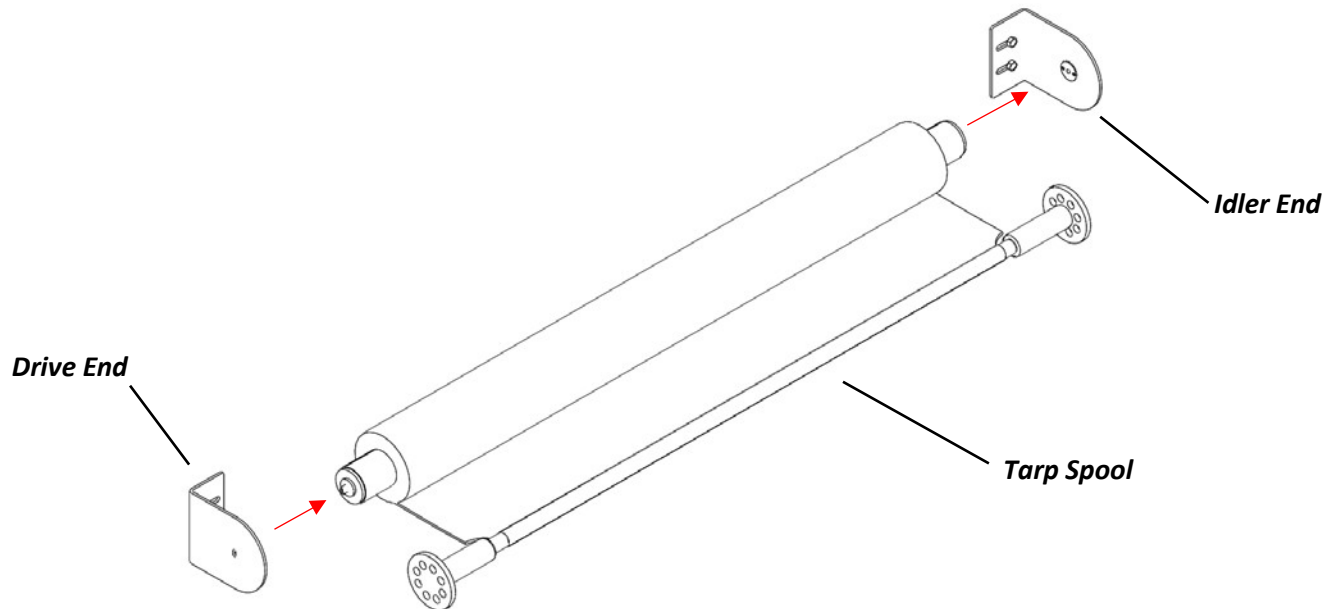

Figure 1: Spool assembly before tensioning
3. **Slide tarp spool into idler endplate and add drive plate to the keyed end of the spool. (FIGURE 1)**